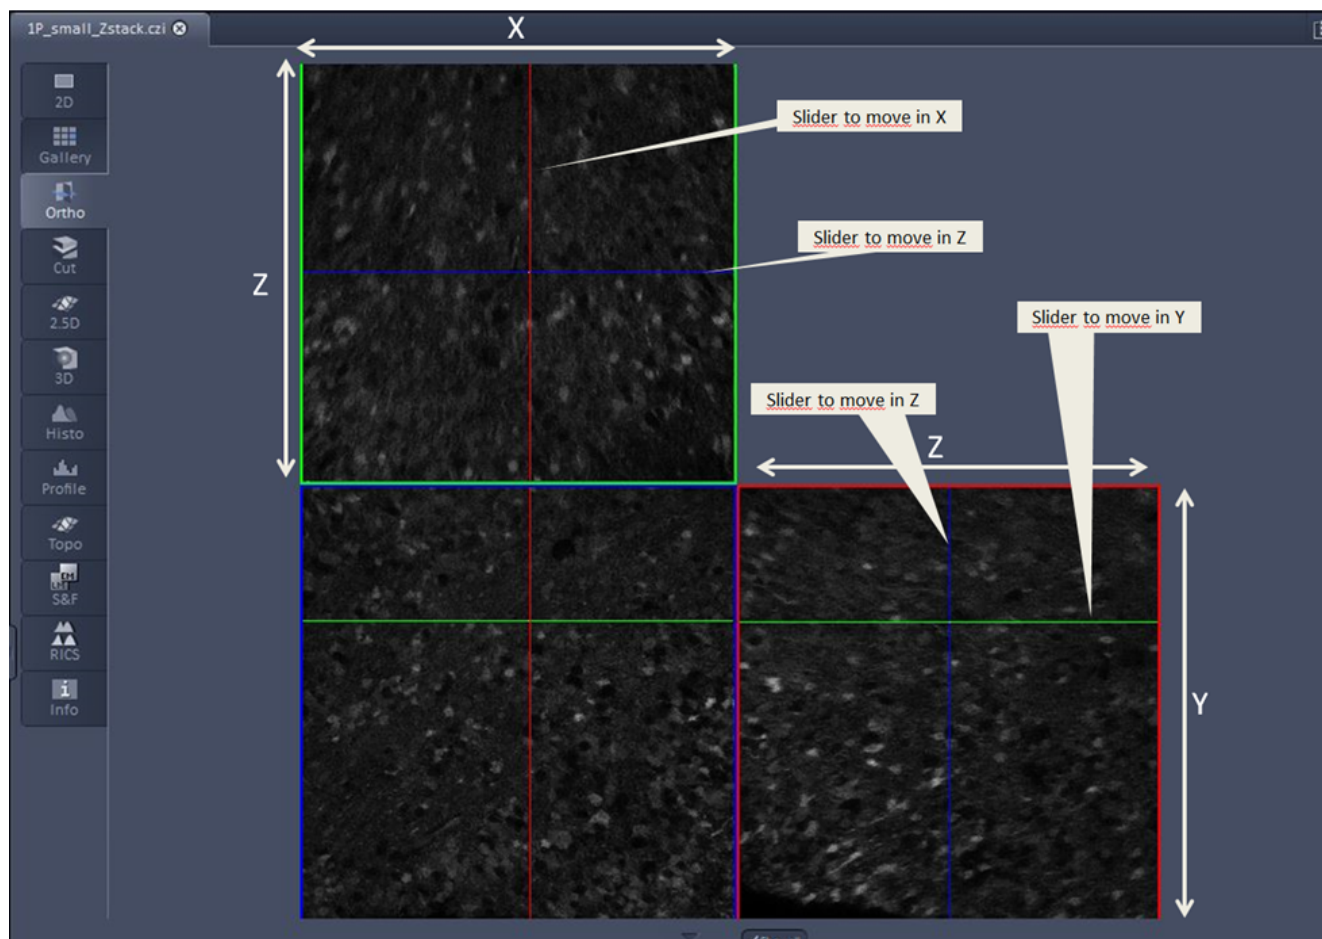

Fig. 506 Image Display - Ortho View
- In the **Ortho** View, section sliders appear in the **Ortho View Option** control block together with orthogonal projections in the image (Fig. 506).